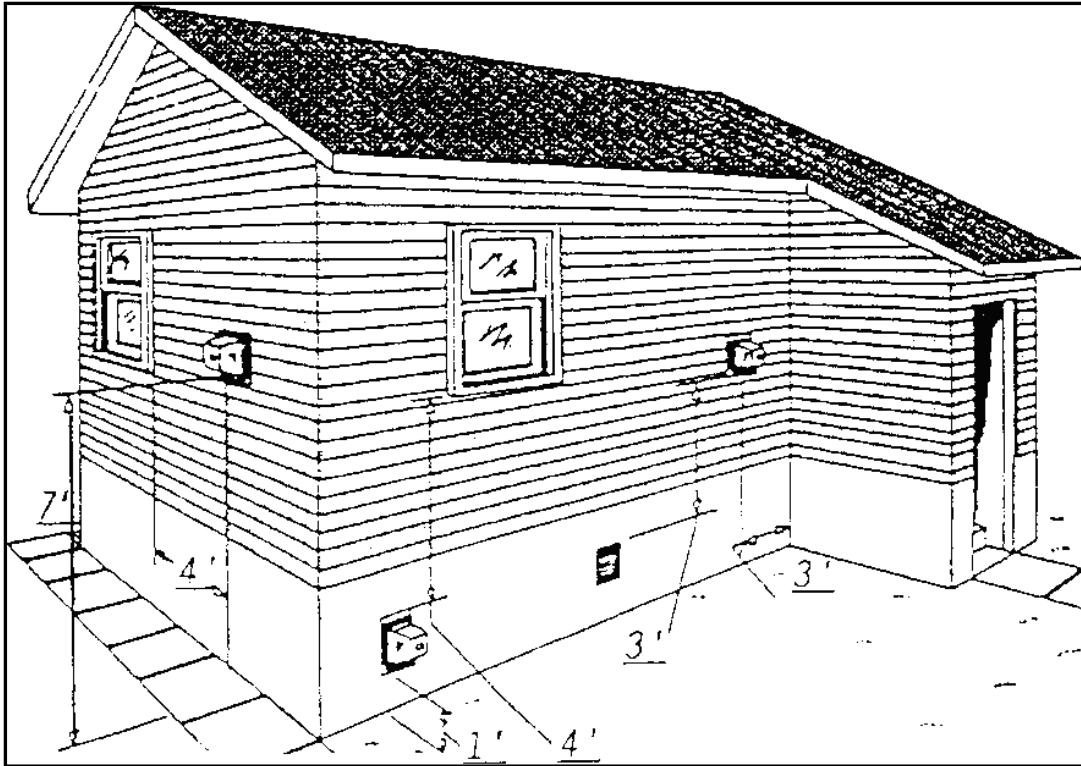

Figure 1
2. The exit terminal of the system must conform to the following guidelines. See Figure 1.